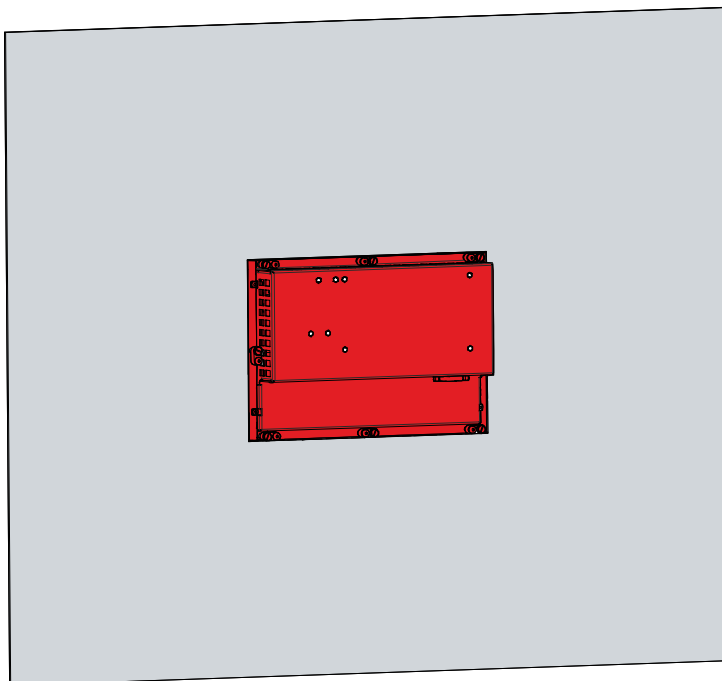

Fig. 17: Wall positioning
3. Select the "Cleaning Mode" (see Fig. 17).